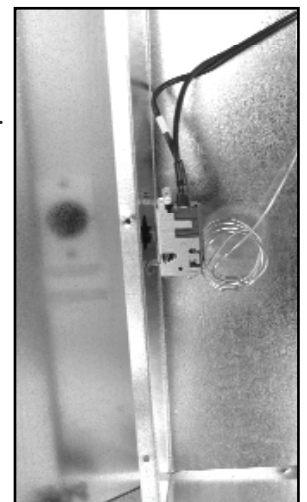

Figure 3.
A. The temperature control can be released from the panel by using a phillips head screw driver (See Figure 3).